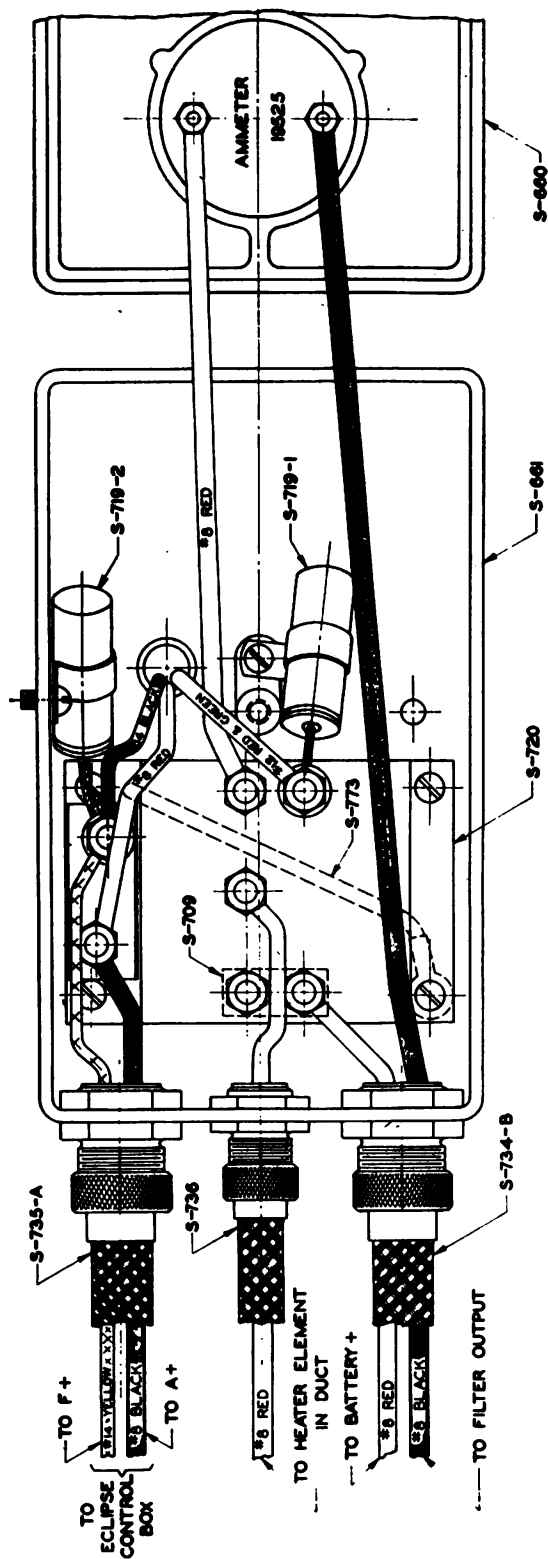

FIGURE 14.—Control box, practical wiring diagram.
(4) See wiring diagram (fig. 14) for connections in control box.